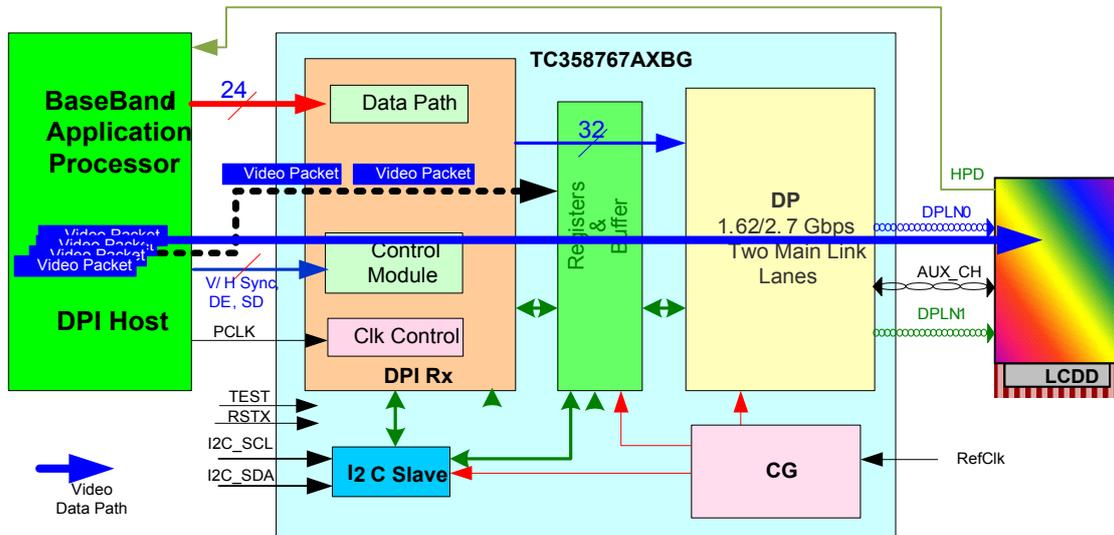

Figure 1.2 System Overview with TC358767AXBG in MODE_P21 Configuration
- Mode_P21: A system configuration where TC358767AXBG may typically be used is shown in Figure 1.2. This is similar to the Mode_S21 except that the video stream source is from DPI Host. In this configuration, the TC358767AXBG can support displays with resolution up to WUXGA (1920×1200) at 24bit, 60 fps.